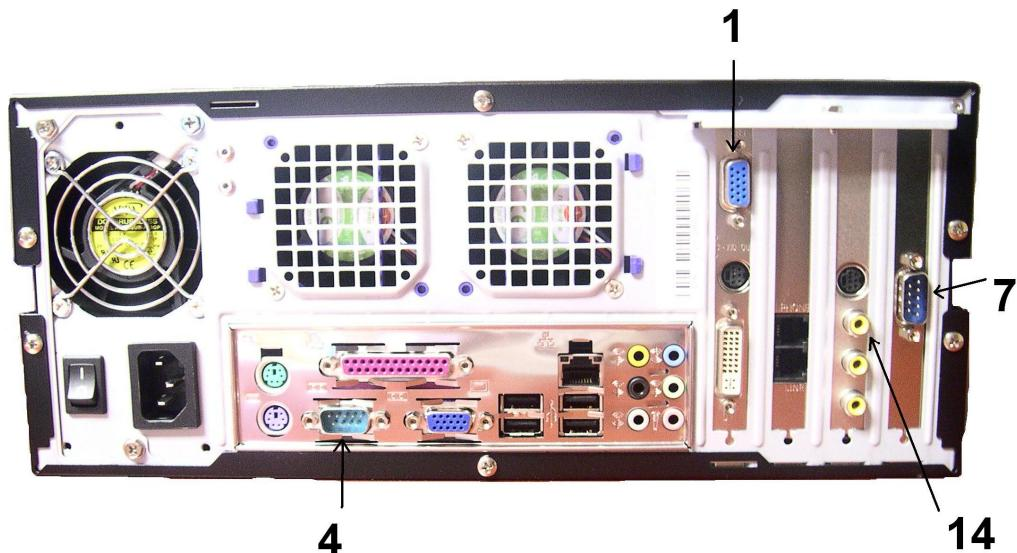
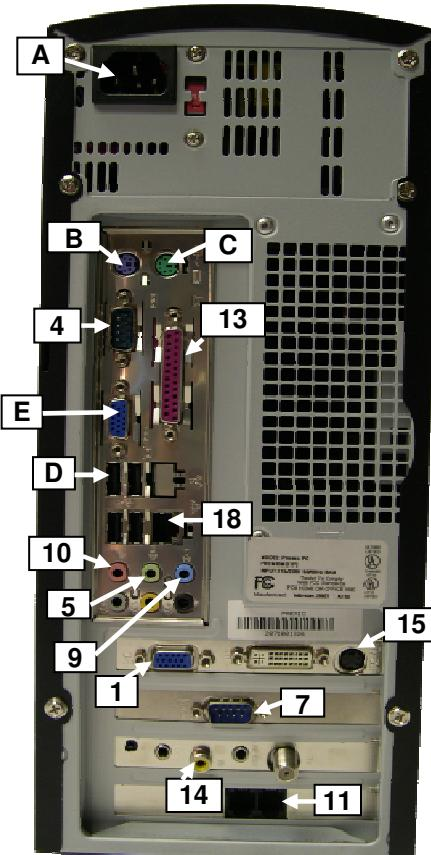
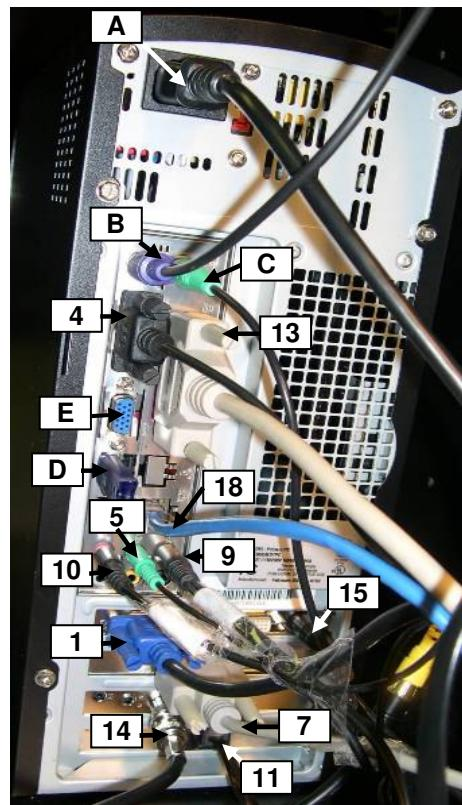

Figure 3: Series 11 PC back
Figure 1 Computer back
Figure 2: Wired computer back
Figure 1 shows the connectors that you plug the devices into. Figure 2 shows the back of a correctly wired computer. Figure 3 shows the series 11 PC back.
If you want the audio to go to the monitor speakers, plug in Monitor Audio In (cable label 5 in Figure 2) from the monitor to the back of the computer (label 5 in Figure 1).
If you want the audio to go to the hall PA system, plug in PC Audio Out PA (label 8) from the I/O box to the back of the computer (label 5 in Figure 1). Cable label 8 is not shown in Figure 2 because cable label 5 is plugged in.
1. **PC VGA**—Connect the DB15 VGA cable (cable label 1 PC VGA) to the blue monitor input at the back of the computer (label 1 on Figure 1 Computer back, page 9).
Do not connect the PC VGA to E (See Figure 1 Computer back, page 9) as this VGA connector is disabled.
4. **PC Touch Screen**—Connect the DB9 serial connector (cable label 4 PC Touch Screen) to the Touch Screen input on the back of the computer (label 4 on Figure 1 Computer back, page 9).
5. **Monitor Audio In**—Connect the 1/8 inch stereo plug (cable label 5 Monitor Audio In) to green input on the back of the computer (label 5 on Figure 1 Computer back, page 9). **Plug the cable into the monitors, if you want the audio to go to the monitor speakers.**
Note: If you want the audio to go to the hall PA system, plug in the 1/8 inch stereo plug from the I/O box (cable label 8 IO box Audio Out) into the back of the computer (label 5 in Figure 1 Computer back, page 9).
5. **Monitor Audio In**—Connect the 1/8 inch stereo (cable label 5 Monitor Audio In) from the back of the computer (label 5 in Figure 1 Computer back, page 9) into the monitor. **Plug the cable into the monitors, if you want the audio to go to the monitor speakers.**
Note: If you want the audio to go to the hall PA system instead of the monitors, plug in the 1/8 inch stereo plug from the I/O box (cable label 8 IO box Audio Out) into the back of the computer (label 5 in Figure 1 Computer back, page 9).
The PC Video In Cable (cable label 14 PC Video In) has an RCA type connector on the end. This is typically an RG59 cable with a BNC connector on the end and a BNC to RCA adapter. The PC Video In cable plugs into the Video In connector on the back of the computer (label 5 on Figure 1 Computer back, page 9).
The PC Video out Cable (cable label 15 PC Video Out) has an S-Video type connector on the end. This is typically an RG59 cable with a BNC connector on the end and a BNC to RCA adapter connected to a RCA to S-Video adapter. The PC Video Out cable plugs into the Video Out connector on the back of the Computer (label 15 on Figure 1 Computer back, page 9).
14. **Video Switch Out 4**—Connect the BNC video output (cable label 14 Video Switch Out 4) to the PC Video In input on the computer (label 14 in Figure 1 Computer back diagram, page 9).
15. **Video Switch In 5**—Connect the BNC video input to the PC Video Out input on the back of the computer (label 15 in Figure 1 Computer back diagram, page 9).